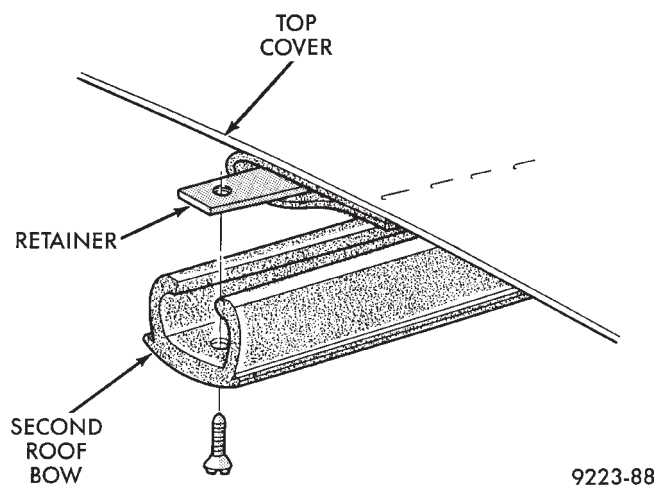

Fig. 9 Second Roof Bow Retainer
(4) Remove screws holding second roof bow to top cover listing retainer (Fig. 9).
(5) Remove staples holding stay pads to second roof bow.
(6) Separate second roof bow from top frame.